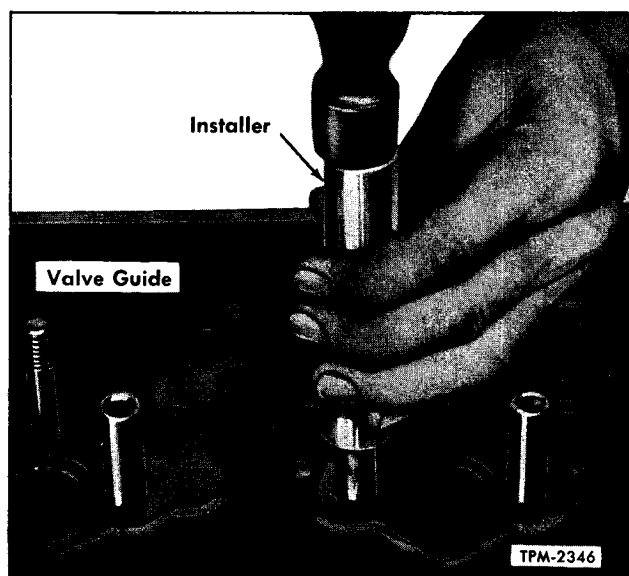

Figure 84—Valve Guide Installer
2. Position valve guide squarely into head, then drive or press into place (fig. 84).